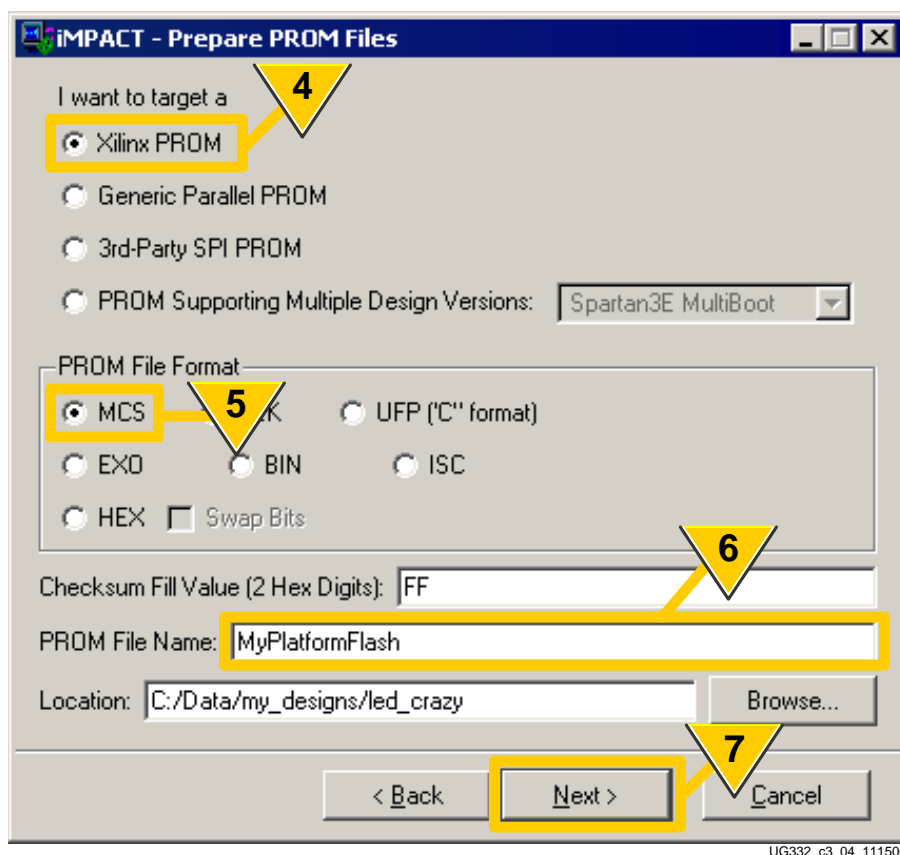

Figure 3-9: Set Options for Xilinx Platform Flash PROM
4. As shown in Figure 3-9, format the FPGA bitstream or bitstreams for a Xilinx PROM.